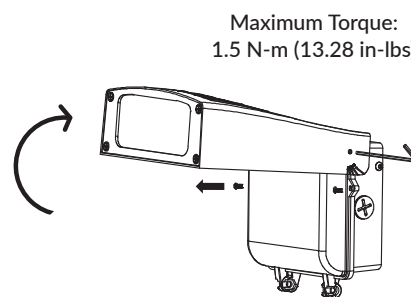

Figure 3
- Use a 3/32 hexagon wrench to loose the side hex screws and adjust luminaire head upward to 90 degrees. (Figure 3).
- Open the driver box by unscrewing the top part of the driver box. (Figure 3).